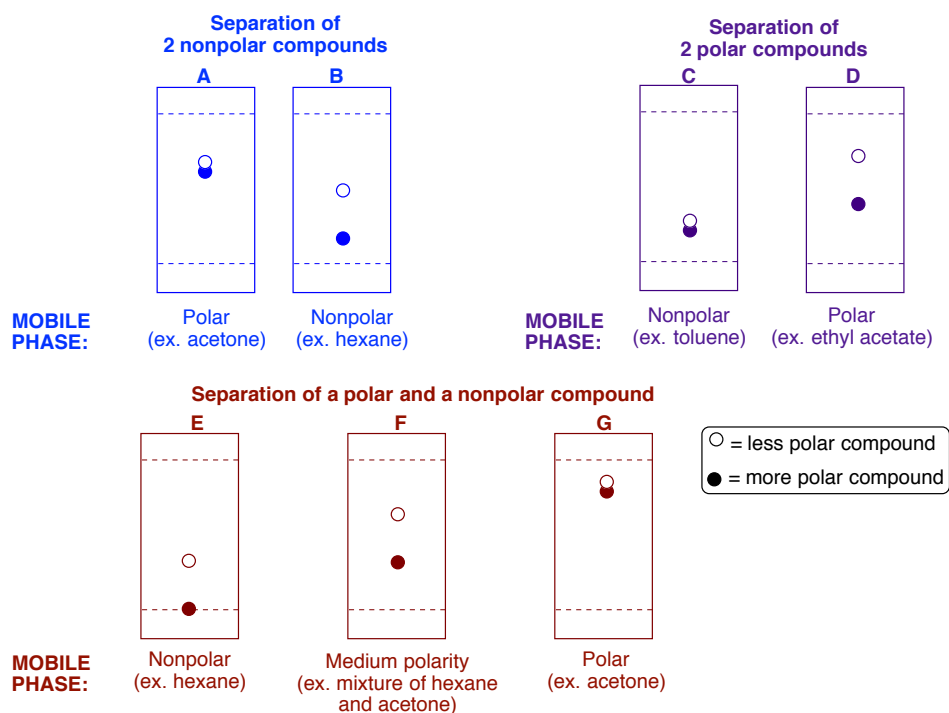

Figure 5. Separation of hypothetical mixtures.
- **Purpose:** one-sentence summary of the lab goals and the recrystallization scheme (**Figure 5**)
To illustrate the relation between polarity and the success of the separation, consider three hypothetical mixtures, each containing two compounds of different polarity. In **Figure 5**, both compounds spotted on plates **A** and **B** are nonpolar, for example, an alkene and an aromatic hydrocarbon. A polar solvent does not separate the nonpolar mixture well (**Fig. 5 A**). Both compounds travel similar distances since the polarity of the solvent overrides the polarity of the plate. A nonpolar solvent, on the other hand, separates the two components (**Fig. 5 B**) due to greater interaction between non-polar solute and solvent molecules. The less polar alkene travels farther than the slightly more polar aromatic hydrocarbon.
The mixture second mixture on plates **C** and **D** contains two polar compounds, for example, an ester and an alcohol. Neither compound moves with a nonpolar solvent (**Fig. 5 - C**) since the polar compounds have a greater affinity for the polar plate. Both travel and separate when a polar solvent is used (**Fig. 5 - D**). The less polar ester travels farther than the more polar alcohol, which sticks to the plate.
The third case is most applicable to the separation of spinach pigments with a mixture of compounds of very different polarities. This type of mixture is best separated by medium polarity solvents, or a mixture of non-polar and polar solvents. For example, a mixture of an aromatic hydrocarbon and a phenol can be separated using a nonpolar solvent. The aromatic hydrocarbon moves farther and the more polar phenol stays at the origin (**Fig. 5 - E**). It is ideal for both compounds to move at least slightly from the origin to ensure complete separation, especially in the case of spinach pigments where there are more than two components. Using a solvent of medium polarity increases the distances traveled by both compounds (**Fig. 5 F**). A polar solvent causes both compounds to move at similar speeds and no separation is achieved (**Fig. 5 G**). The polarity of the solvent overrides that of the plate and both compounds travel upward, with the non-polar compound moving slightly farther up the plate.